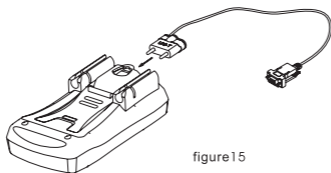

figure15
B. Setting of RS232C Serial Ports (see figure 15)